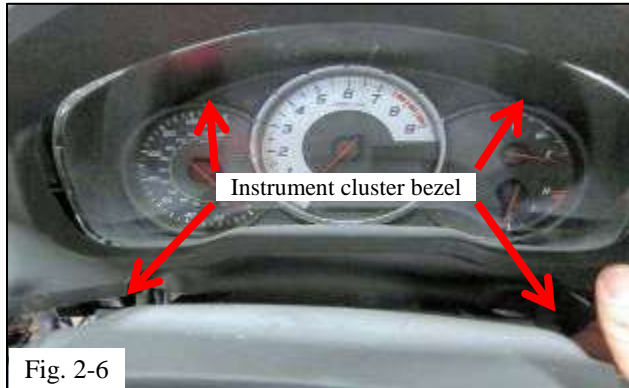

Fig. 2-6
(1) Pull the instrument cluster bezel out so that it is loose from the instrument cluster (Fig. 2-6).